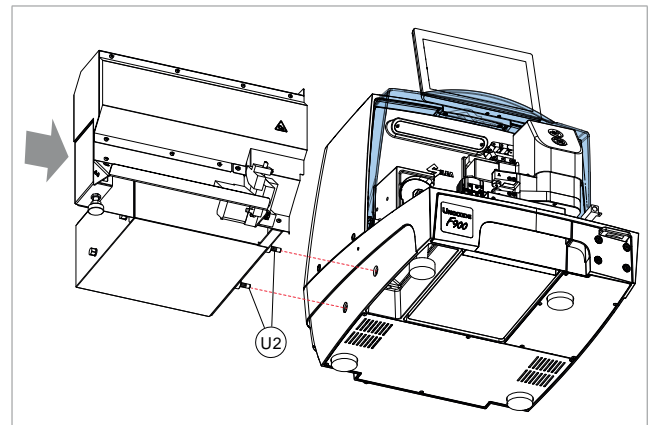

Fig. 29
- 1) Place the feeder unit in position with the threaded pins (U2) in the holes on the left-hand side of the key-cutting machine (Fig. 29).